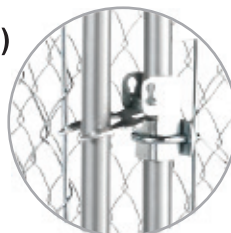

Figure 4
Attach **LOCKABLE GATE LATCH (B)** to the latch side of the gate frame, at the desired height. Tighten bolts until latch is firmly attached to frame. Slide the gate into position leaving approximately 2 inches between the gate and the corner stand, (figure 4)